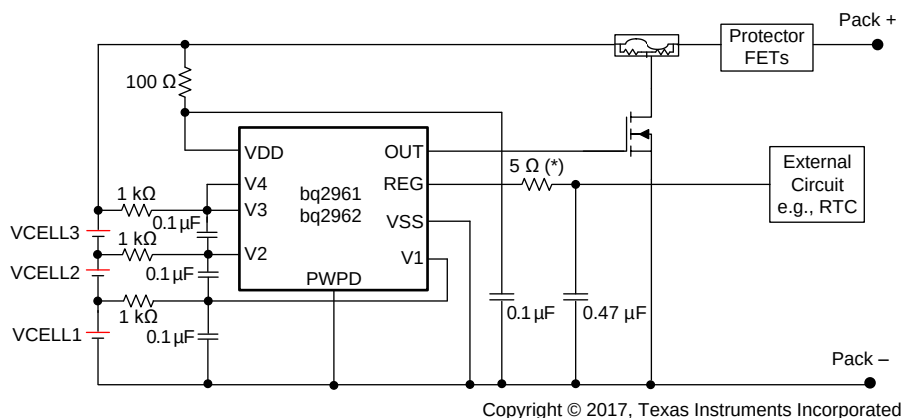
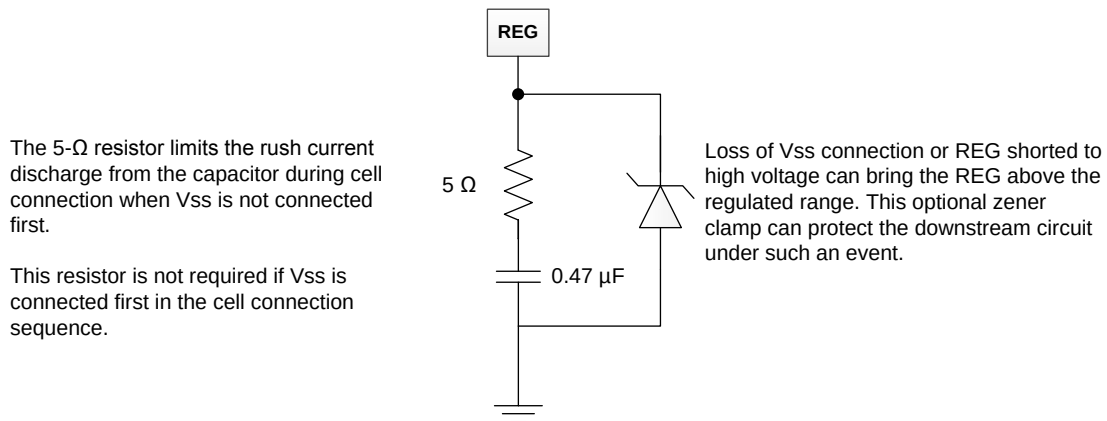

图 17. 3-Series bq2961 and bq2962 Schematic
图 18. 5-V Zener Diode
1. If VSS pin cannot be connected first, it is required to add a resistor of a minimum of 5 ohms to a maximum of 10 ohms (a 5-ohm resistor is used in the reference schematic, 图 17) in series with the REG capacitor. When VSS is floating, the REG capacitor always charges up to the VDD voltage. When VSS is finally connected, the REG capacitor will be discharged. Adding a small resistor in series reduces the current strength and avoids any potential damage to the REG pin. The 5-ohm resistor can be placed in series with the REG connect circuit (as shown in 图 17) or in series of the REG capacitor (as shown in 图 18). Placing the resistor in series with the REG circuit results in a small drop of VREG (for example: max loading of 1 mA with a 5-ohm resistor will drop 5 mV on VREG), but such a connection can protect again rush current discharge from both REG capacitor or external filter capacitor connected to the REG pin. Placing the resistor in series with the REG capacitor is an alternative to avoid additional drop in VREG if the filter capacitor used by the external circuit is much smaller than the REG capacitor.
3. Cell should be connected to the lower V_n pin; the unused V_n pin should be shorted to the (V_{n-1}) pin. See 图 17 for details.
4. A zener diode can be added to the REG pin to VSS as shown in 图 18. This is recommended to protect the circuit connected to the REG pin if floating VSS in the field is a risk concern. When VSS is floating (during cell connection when VSS is not connected first or in system fault with BAT– wire broken), the REG voltage always pulls up to VDD. In a 4-S configuration, the REG voltage can reach approximately 16 V with VSS floating. Adding a zener diode clamps the REG voltage to a safe level for the external circuits connected to the REG pin. Having the zener diode can also protect the external circuits if REG pin is shorted to OUT pin or any other high-voltage output terminal. If a zener diode is used, TI recommends putting the diode on the battery side with the bq296xxx device to allow protection on both the REG pin as well as the circuit connected to REG under floating VSS condition. The resistor in series with the REG pin is not required in this case.